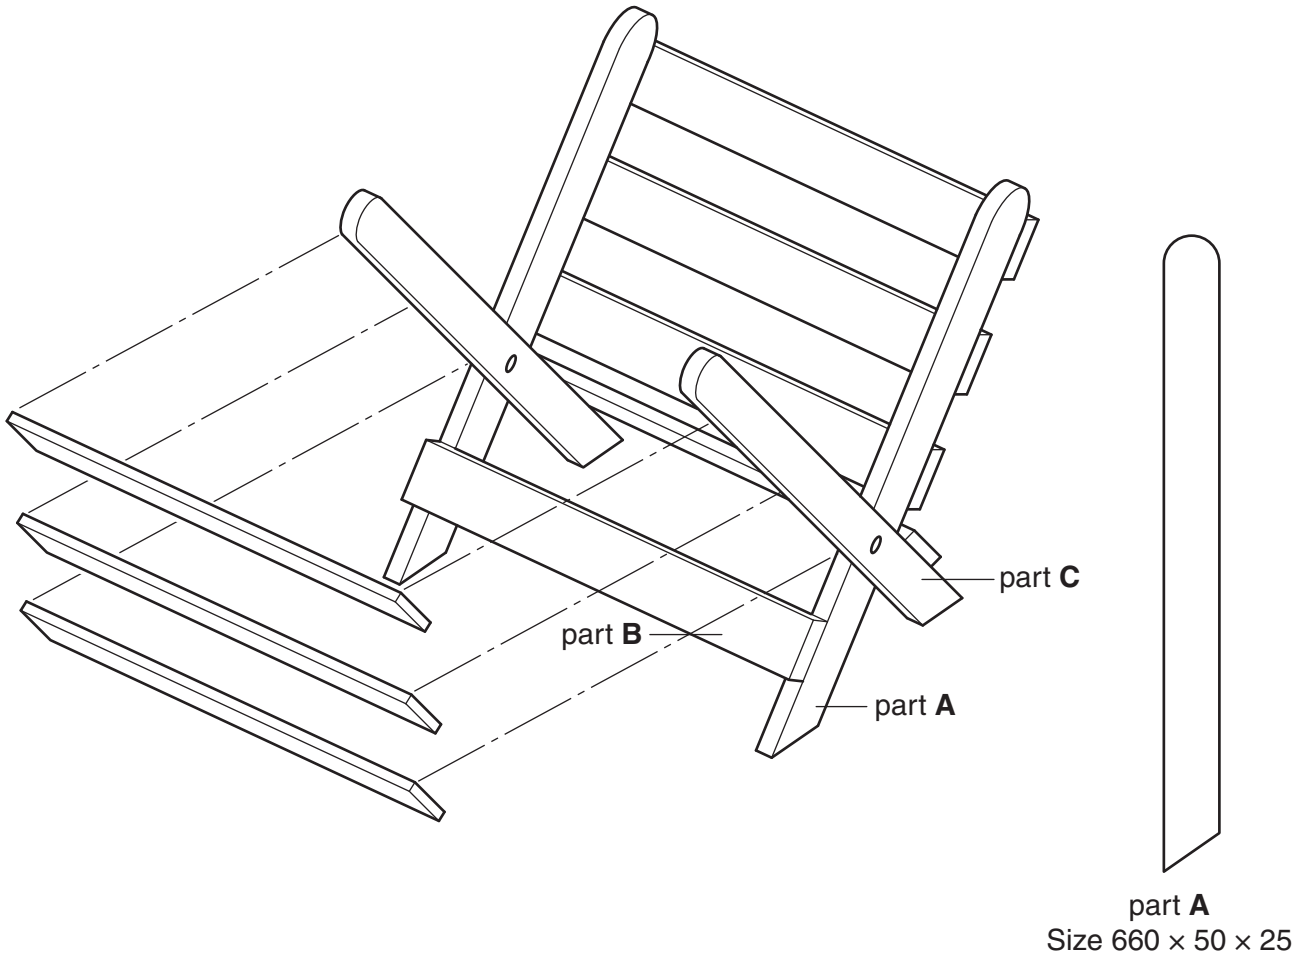

Fig. 1
- 1 Fig. 1 shows a magazine rack, constructed from pine, which is to be made in a school workshop.